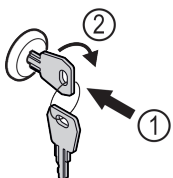

Fig. 163 Example illustration
- Insert key Fig. 163 (1).
- Turn key clockwise by 90° Fig. 163 (2).